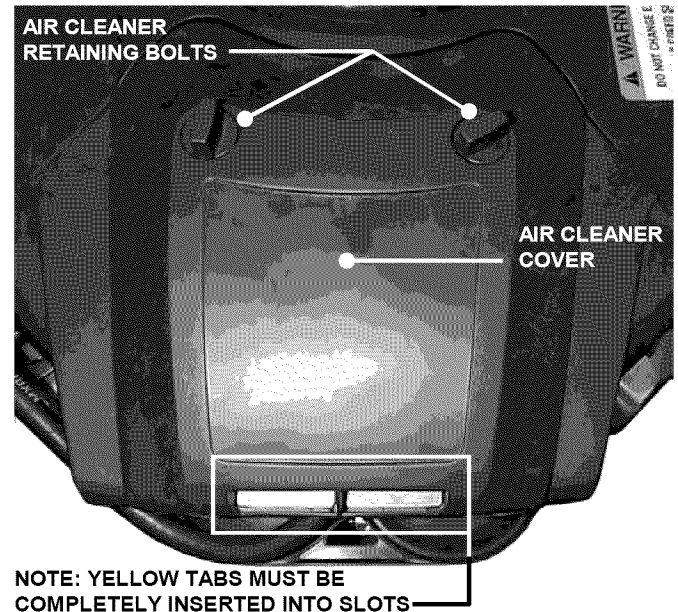

FIGURE 3.4
- a. Change air filter. Remove bolts that secure air cleaner cover. See Figure 3.4.